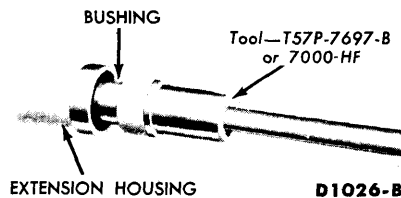

FIG. 19—Installing Extension Housing Bushing
4. When installing a new bushing, use the special tool shown in Fig. 19.